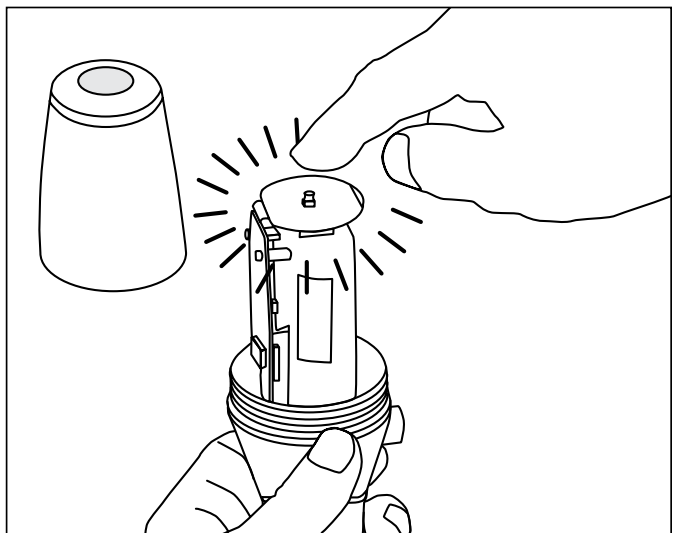

Figure 54
2. Press and hold the top "Reset" button down for 15 seconds (see figure 54). The LED will flash red and green.